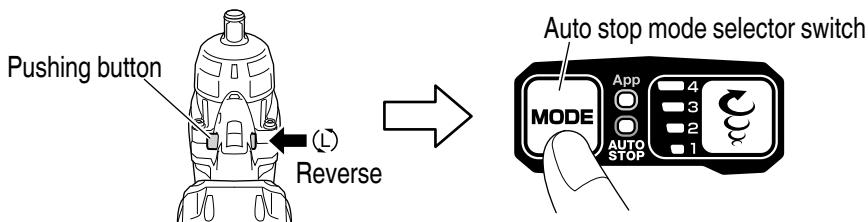

Fig. 23
(4) Auto slow mode (Only when in reverse rotation) (Fig. 23, Table 7)